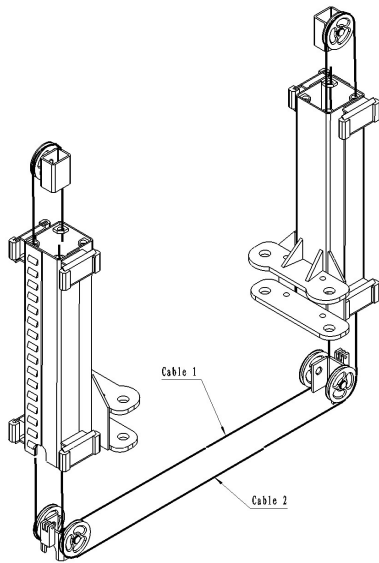

Fig.6a
5. Pass the cables through as shown in fig.6a en 6b.